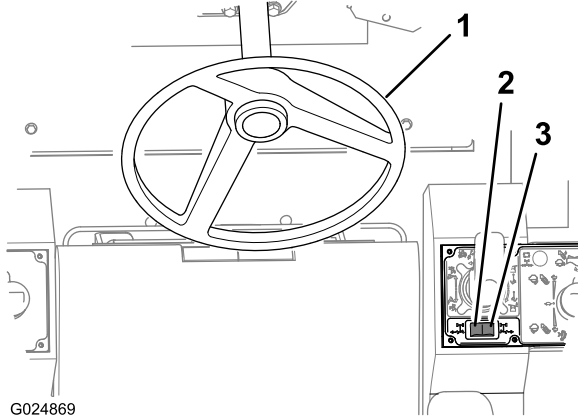

Figure 46
Use the steering wheel to control the front-wheel steering (Figure 46).
- Push the rocker switch for the rear-wheel steering (Figure 46) on the right half of the switch to turn the rear wheels to the right (turn left).
- Push this rocker switch for the rear-wheel steering (Figure 46) on the left half of the switch to turn the rear wheels to the left (turn right).